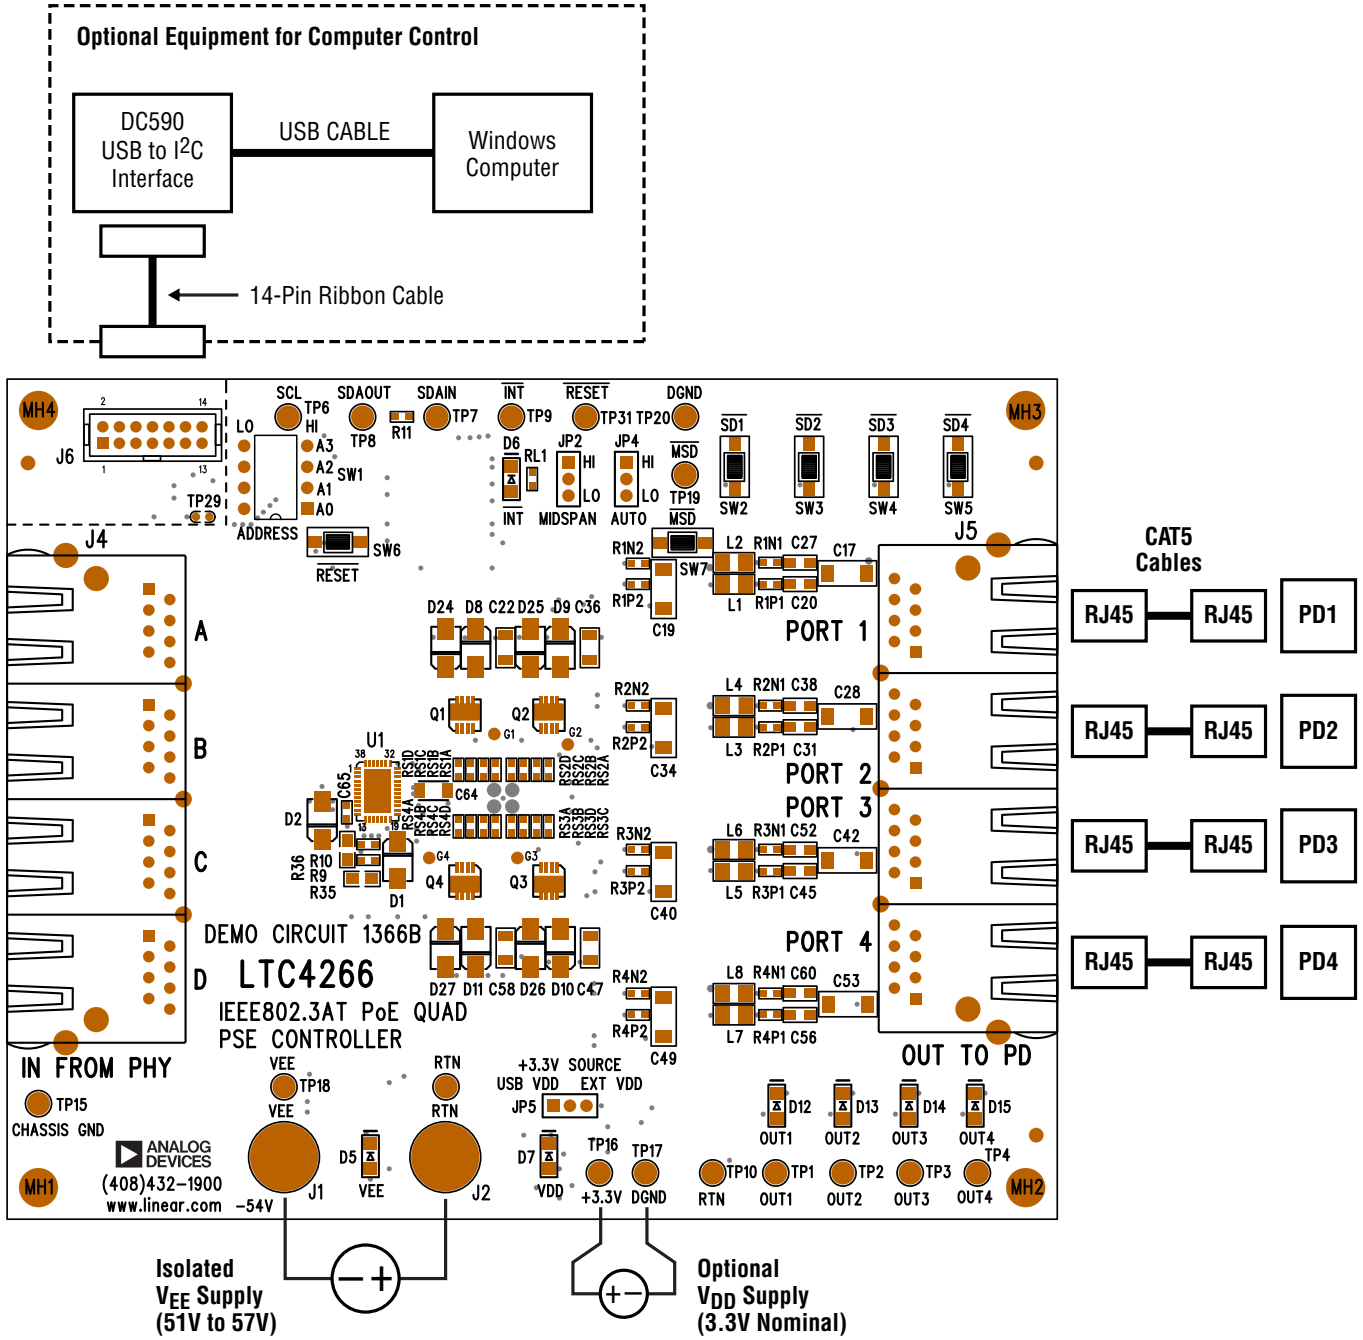

Figure 1. DC1366B Setup
Figure 1 shows the basic setup. The LTC4266 requires two power supply rails:  $V_{DD}$  (nominally 3.3V) and  $V_{EE}$  (nominally -54V). The  $V_{DD}$  supply can be provided by a DC590 board or an external bench supply.
7. Connect the main power supply to the DC1366B with two banana patch cords as shown in Figure 1. **Verify the polarity is correct before turning on the power; positive goes to RTN and negative to  $V_{EE}$ .**
2. Connect a 3.3V power supply across +3.3V and DGND test points as shown in Figure 1. Turn on the 3.3V supply and verify the  $V_{DD}$  LED on the DC1366B is lit.
4. Connect the main power supply to the DC1366B with two banana patch cords as shown in Figure 1. **Verify the polarity is correct before turning on the power; positive goes to RTN and negative to  $V_{EE}$ .**